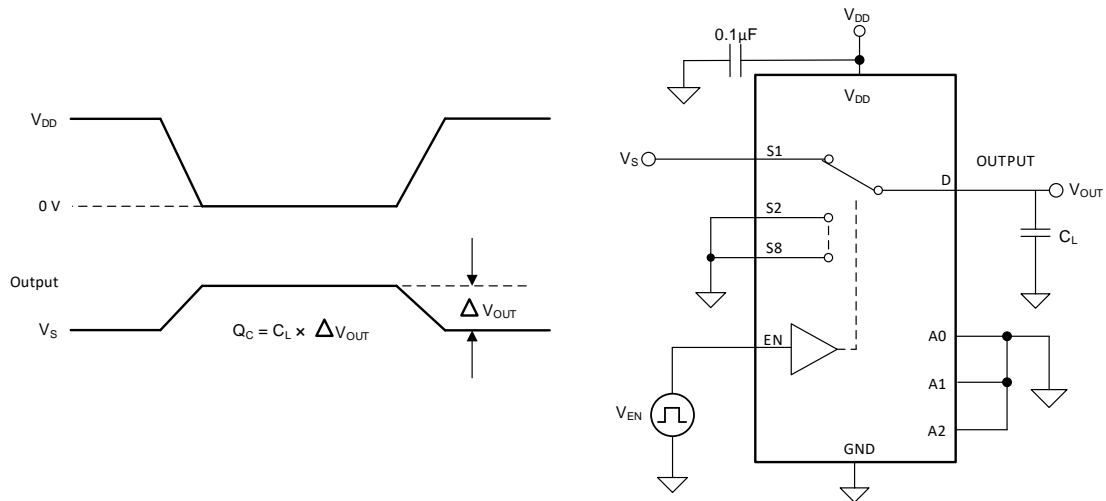

Figure 13. Charge-Injection Measurement Setup
The TMUX1208 and TMUX1209 have a transmission-gate topology. Any mismatch in capacitance between the NMOS and PMOS transistors results in a charge injected into the drain or source during the falling or rising edge of the gate signal. The amount of charge injected into the source or drain of the device is known as charge injection, and is denoted by the symbol  $Q_C$ . Figure 13 shows the setup used to measure charge injection from source ( $S_x$ ) to drain (D).